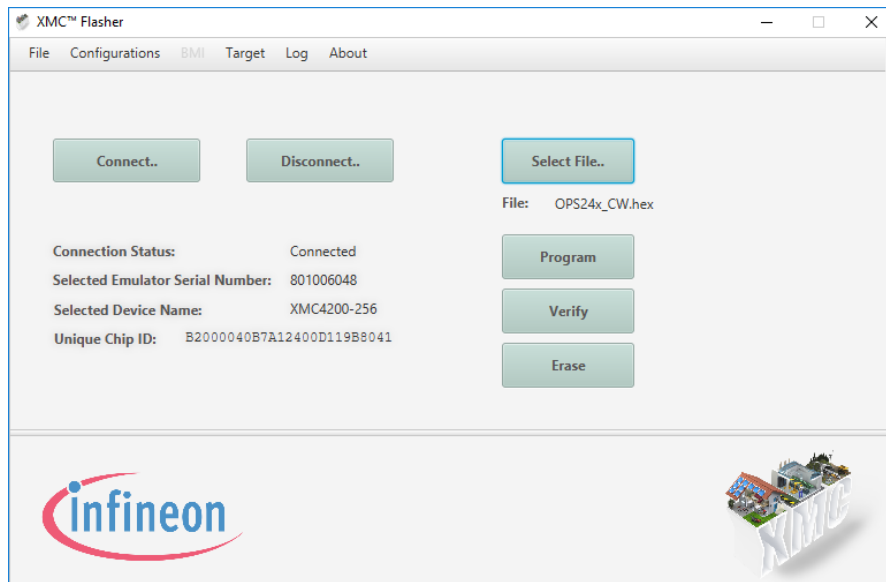

Figure 10. Hex File Selection
**Step 8.** Next, click on Select File and browse to the location of the hex file with the code to be updated on the OPS241/OPS242. The name of the file will show up under the Select File button (Figure 10). Contact OmniPreSense customer service to obtain the latest code version.